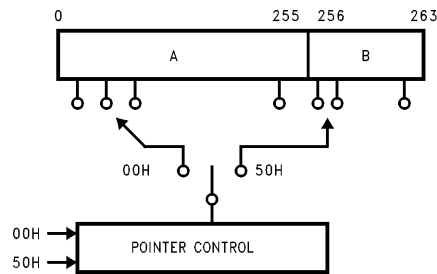

FIGURE 16. Pointer Control
(2) POINTER CONTROL FOR "00H", "50H"
The NM29N16S/R has two read modes to set the destination of the pointer in either the main memory area of a page or the redundancy area. The pointer can be designated at any location between 0 and 255 in read mode (1) and between 256 and 263 in read mode (2). Figure 16 shows the block diagram of their operations.